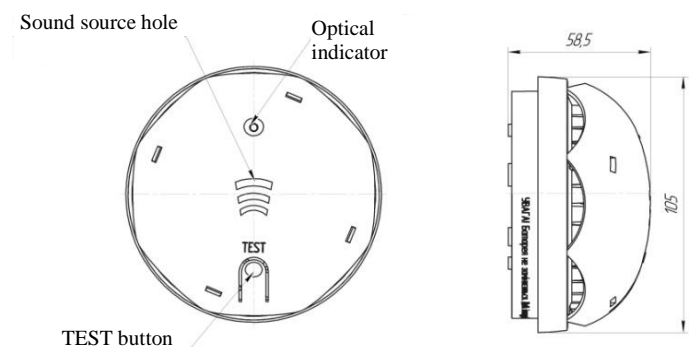

Fig. 1. General view of the smoke detector
3.4 General view of the smoke detector is shown in Fig. 1.